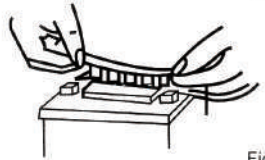

Fig.3
4. When all the fluid has drained into the battery remove empty bottle and firmly press the sealer cap into position over battery vent holes(Fig.3)